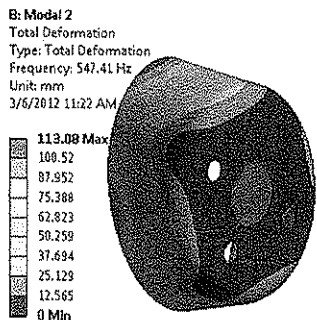

Figure 10-54 First mode shape when **Total Deformation** is selected under the **Solution** node
13. Select **Total Deformation** from the **Solution** node to display the first mode shape in the Graphics screen, as shown in Figure 10-54.